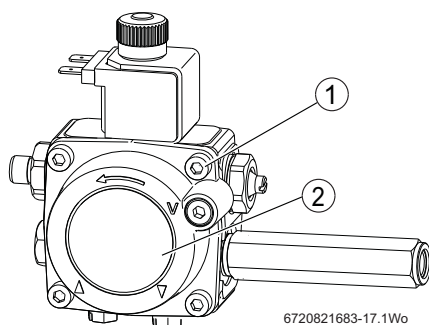

Fig. 83 Pump filter access
- ▶ Refer to figure 83 and remove the oil pump internal filter, clean in Kerosene and reassemble.